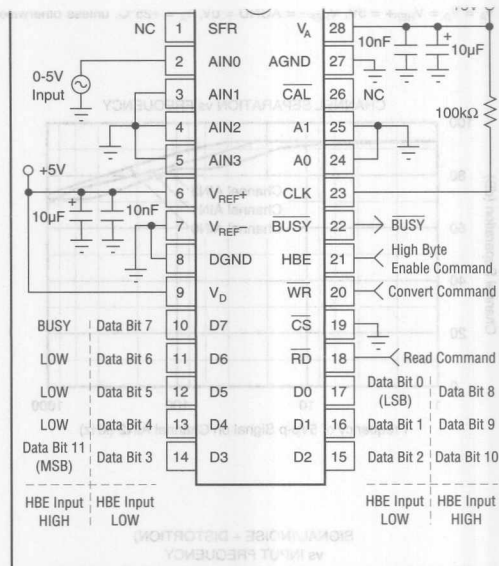

FIGURE 1. Basic Operation.
Figure 1 shows the simple circuit required to operate ADC7802 in the Transparent Mode, converting a single input channel. A convert command on pin 20 (\overline{WR}) starts a conversion. Pin 22 (BUSY) will output a LOW during the conversion process (including sample acquisition and conversion), and rises only after the conversion is completed. The two bytes of output data can then be read using pin 18 (RD) and pin 21 (HBE).